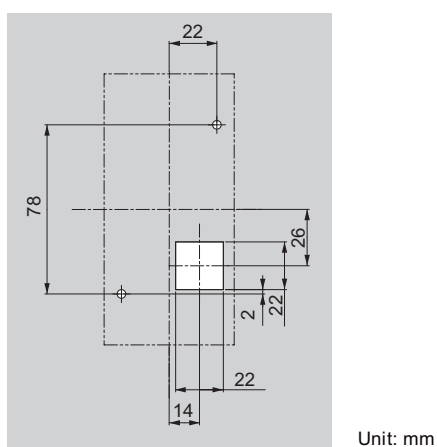

Figure 2.12 Panel Cut-Out Dimensions (External/Face-Mount Installation)
1. Cut an opening in the enclosure panel for the digital operator as shown in Figure 2.12.